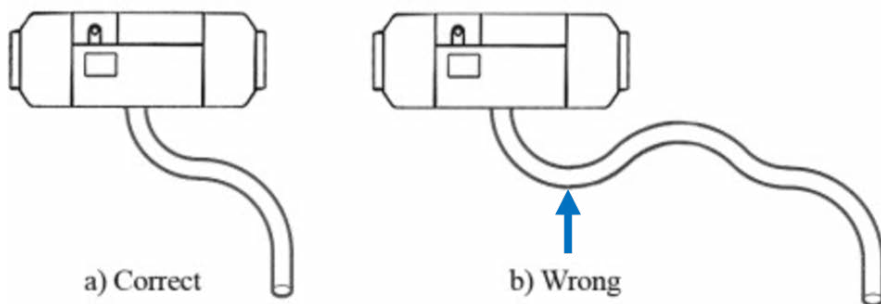

Fig. 26
- ☐ Install the combustion air inlet pipe and the exhaust pipe in a continuous downward direction from the heater, to discharge condensation water. Fig. 26.